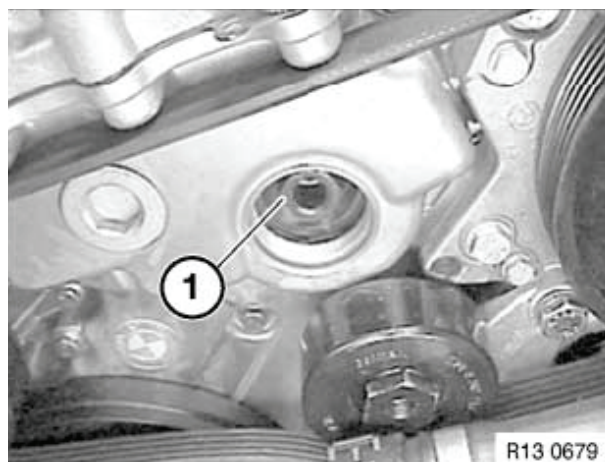

Figure 6-31
5. Remove special tool OEM No. 13 5 191 and install nut (**Figure 6-31, (1)**). Tighten nut to 65 N·m (48 ft-lb).